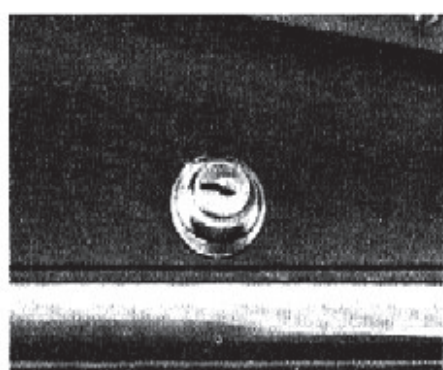

Fig. 14—Package
package compartment at the right end of instrument panel is controlled by a lock above the compartment (fig. 14). When the
**Instrument Panel Compartment Lock.** The door to the convenient package compartment at the right end of instrument panel is controlled by a lock above the compartment (fig. 14). When the lock is unlocked, depressing the lock cylinder releases the latch and the door opens. When the lock is locked the cylinder cannot be depressed. The key used for the door lock and ignition switch is used to lock and unlock the package compartment.